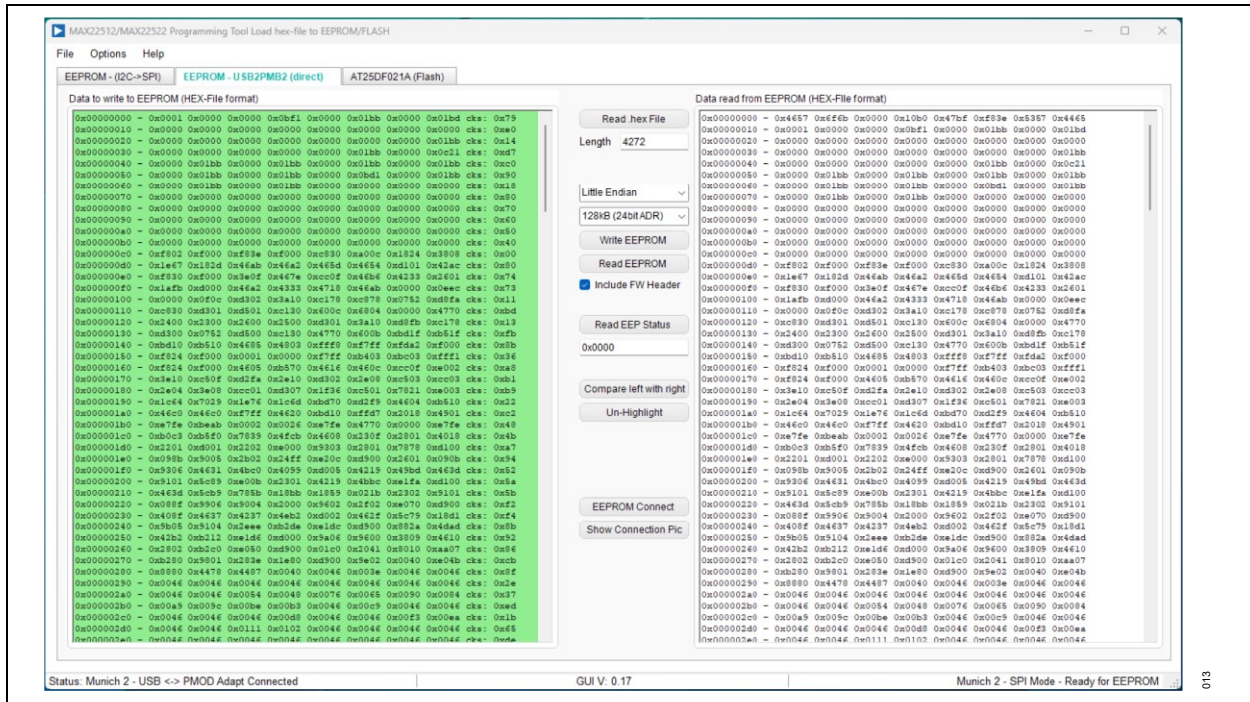

Figure 12. Data Read from EEPROM Window after EEPROM Write
- To verify data is programmed to the EEPROM, click the **Read EEPROM** button. Data from the EEPROM is read and printed in the right-side window, **Data read from EEPROM (HEX-File format)**. Click the **Read EEP Status** or **Compare left with right** button to verify the data read from EEPROM is the same as the data written to the EEPROM. See Figure 12.